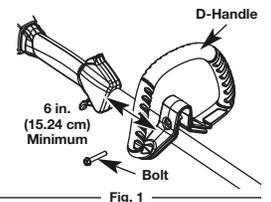

Fig. 1
1. Loosen the bolt on the handle just enough to move it (Fig. 1).
3. Tighten the bolt until the D-handle is secure. (Fig. 1)
1. Place the cutting attachment shield onto the shaft housing above the clamp assembly (Fig. 1).
2. Push the cutting attachment shield down to the top of the cutting attachment assembly. Then rotate the shield until its screw holes line up with the holes in the cutting attachment. The shield guard should fit into the recessed pocket (Fig. 1).